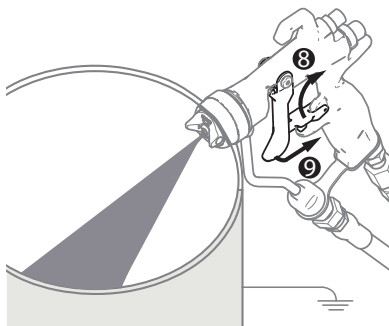

FIG. 27
11. Disengage the trigger lock on the gun. See **Figure 27**.
12. *Purge air from the resin and catalyst hoses:* with a grounded bucket below the gun, press the gun against the side of the bucket and pull the trigger to dispense. Continue dispensing until air-free fluid is dispensed from both ports on the front of the gun. See **Figure 27**. The pump air pressure may need to increase slightly until the material begins to flow.